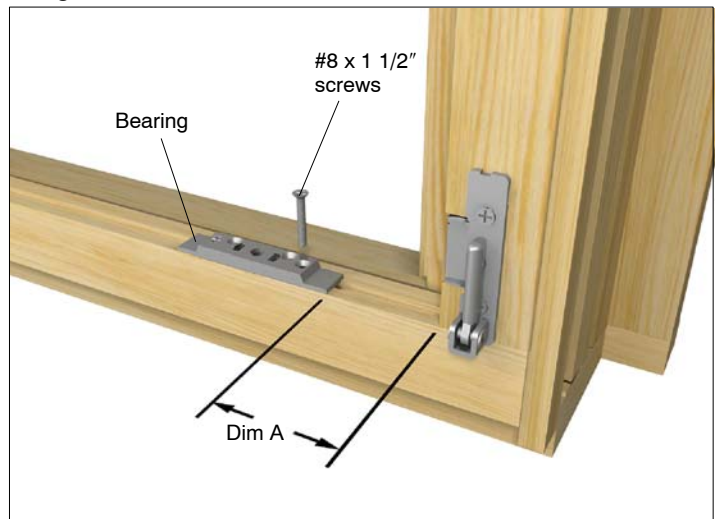

Figure 2
2. Snap the groove packer to the base of the turn restrictor bearing. Determine which position allows the bearing to fit closest to the interior face of the frame¹. Now, using #8 x 1 1/2" screws, apply the turn restrictor bearing to the hinge side of the frame from the corner as shown in figure 2.